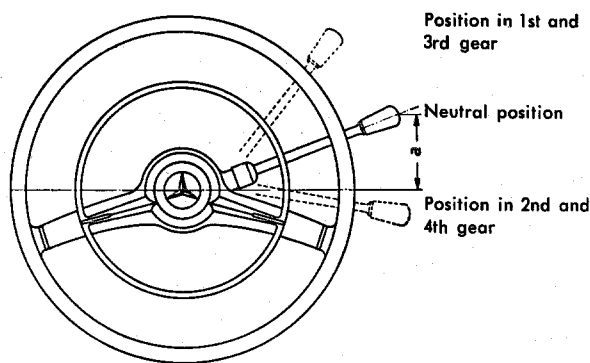

Fig. 26—3/3
6. Check the position of the shift lever at the steering wheel. In neutral the upward deviation of the lever from the horizontal should be approx. 80 mm (Fig. 26 — 3/3).
7. If the deviation is larger than specified above, engage the 4th gear, and after removing the clamp screw pull the lever (10) from the splines (see Fig. 26—3/1).